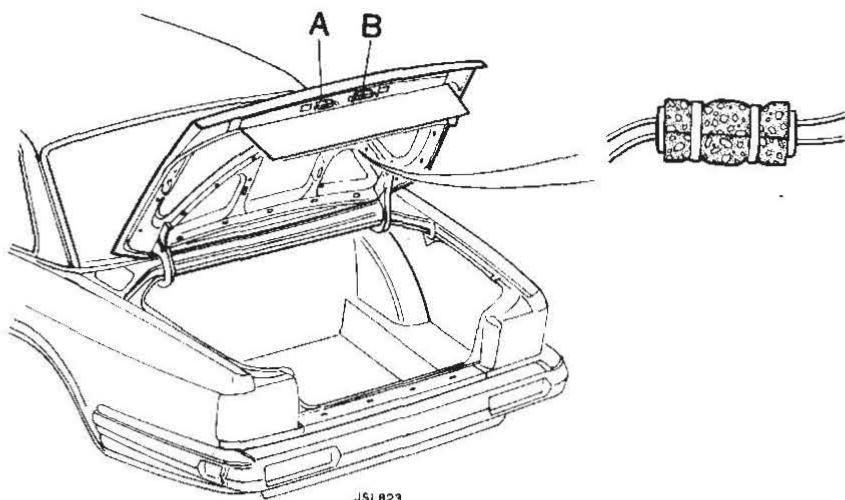

Fig 1
To prevent a rattle occurring between harness connectors (see Fig 1) for connector locations and the boot lid inner assembly, modification was introduced at VIN 530760. To rectify any vehicles which were built prior to this VIN the following procedure should be undertaken.
- 1 Open the boot lid, locate and remove the interior lamp and plastic cover panel. (Fig 1) items A and B.
- 2 Remove/expose the harness connectors for the boot interior light and boot latch switch. (Fig 1).
- 4 Wrap a sleeve around each of the exposed connectors. Secure in position using two tie straps (Part No ADU 9238). Cut the excess plastic tails on the tie straps. (Fig 1).